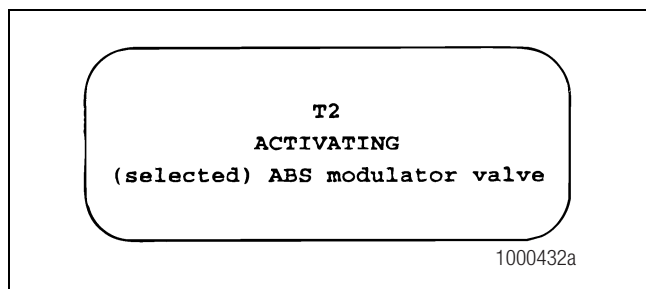

Figure 3.14
- Selected ABS modulator valve will show decreased air chamber pressure. Figure 3.14.